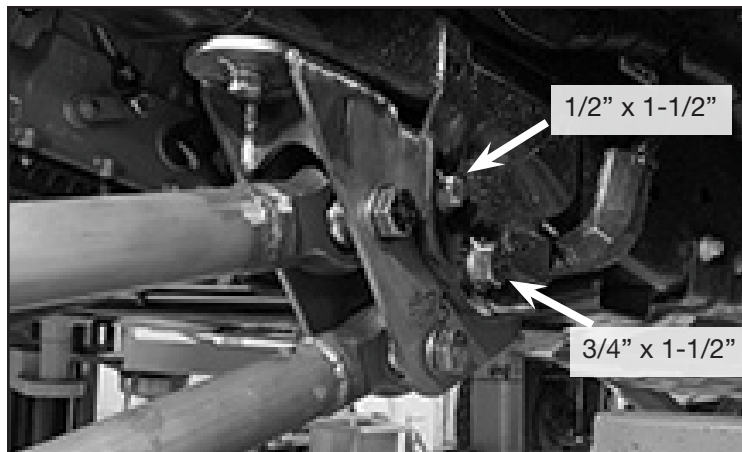

FIGURE 13 - STEP 18
18. Install FT31083 (4-Link Bracket) to the factory radius arm pocket using the supplied 3/4" x 1-1/2" Bolts, washers and nuts and 1/2" x 1-1/2" bolts, washers and nuts. **NOTE: Install on both the exterior and interior of the pocket. SEE FIGURE 13**